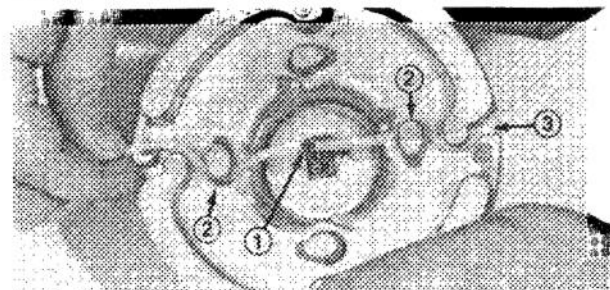

Figure 21
5. Align black spot in center of a monofilament line with the gear case shaft and install line in outboard projections of cutter head (Fig. 21).